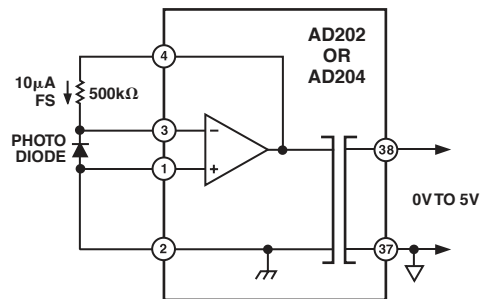

Figure 22. Photodiode Amplifier
**Photodiode Amplifier.** Figure 22 shows a transresistance connection used to isolate and amplify the output of a photodiode. The photodiode operates at zero bias, and its output current is scaled by  $R_F$  to give a 5 V full-scale output.